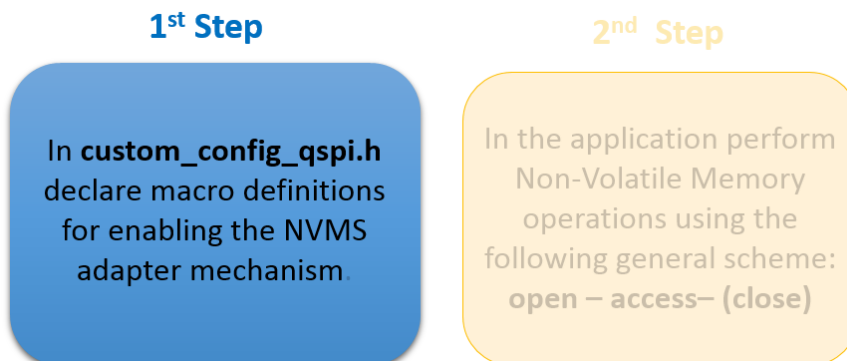

Figure 4: First Step for Configuring the NVMS Adapter Mechanism
- As illustrated in Figure 4, to configure the NVMS adapter mechanism you need to enable it by defining the following macros in the project's /config/custom_config_qspi.h header file: